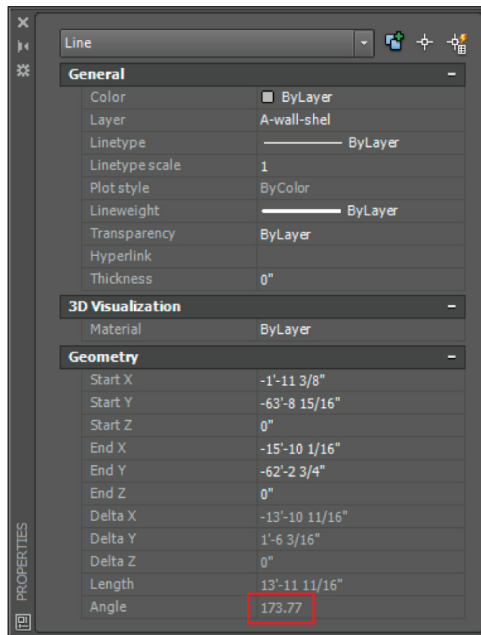

FIGURE 4.28 Examining an object's properties
1. Select the inner line of the window wall directly below the sofas, right-click, and choose Properties from the context menu. Make a note that the Angle property of this line is 173.77 degrees (see Figure 4.28). Press Esc to deselect.